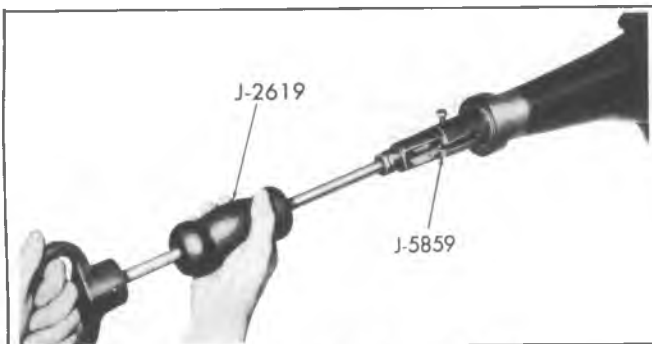

Fig. 7B-16--Removing Rear Oil Seal
- b. Pry seal out of extension housing or remove oil seal using oil seal remover (J-5859) and slide hammer (J-2619) as shown in Fig. 7B-16.